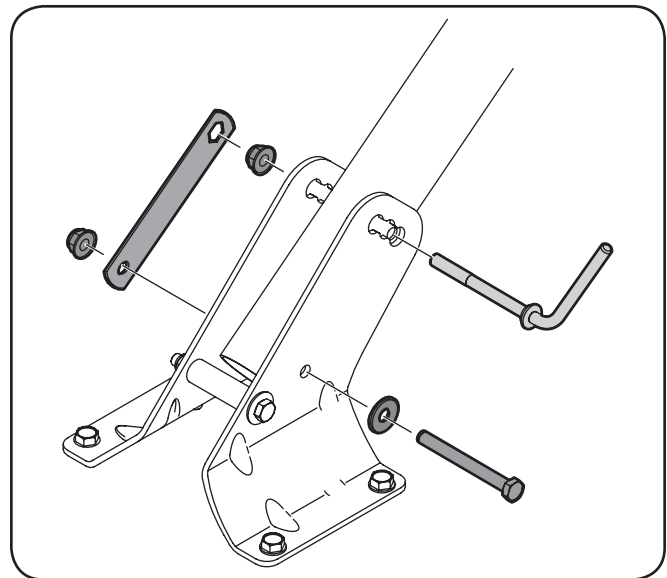

Figure 3-1
1. Install the handle as shown in Figure 3-1 using the handle crank, retainer bracket and hex lock nuts from the hardware pack.